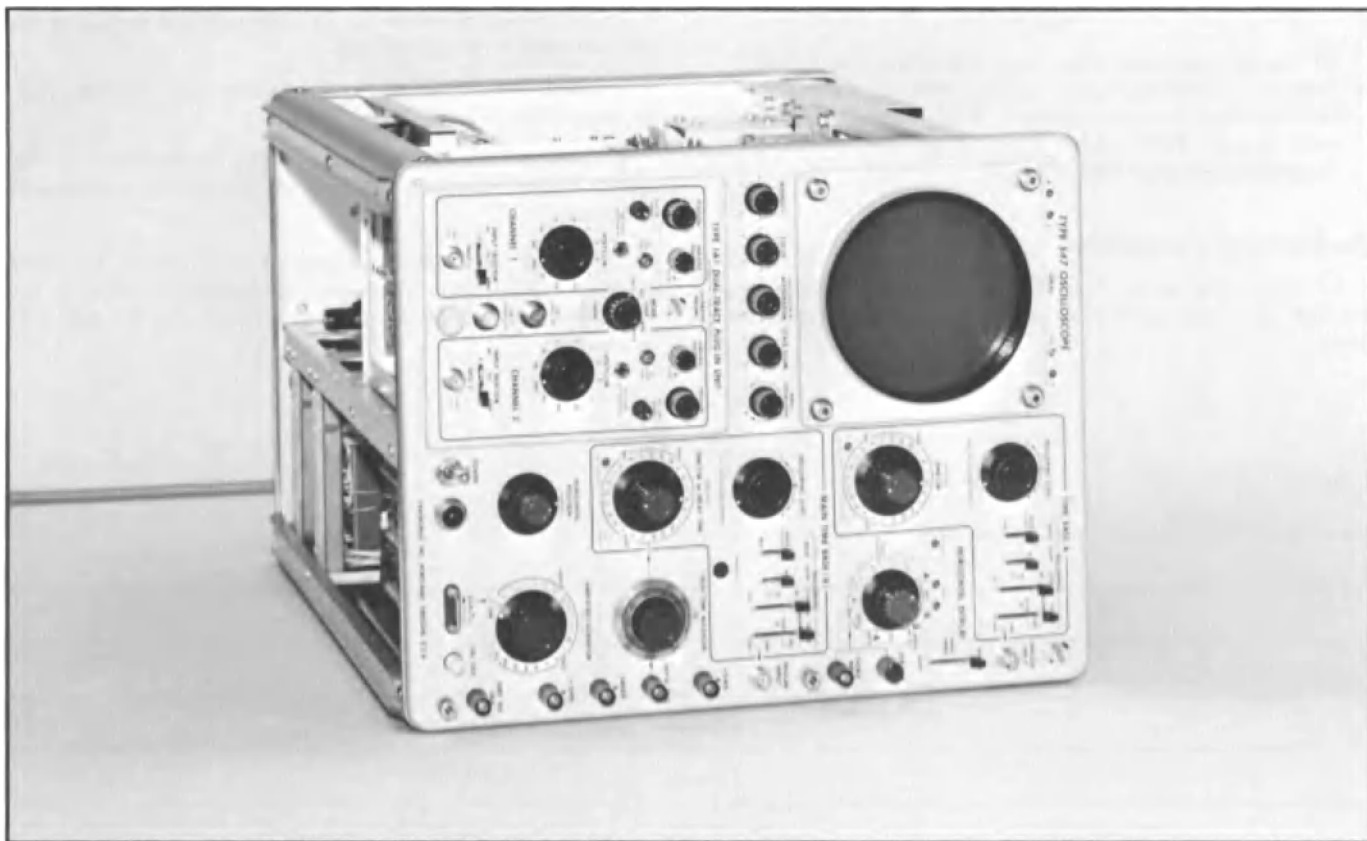

Fig. 7-2. Equipment setup for steps 1 through 4.
1. Adjust Channel 1 .005 V/CM VAR ATTEN ① BAL (R130)
a. Equipment setup is shown in Fig. 7-2.
2. Adjust Channel 1 .05 VOLTS DC BAL (R148) ①
- Equipment setup is shown in Fig. 7-2.
3. Adjust Channel 2 .005 V/CM VAR ATTEN (R230) ①
4. Adjust Channel 2 .05 VOLTS DC BAL (R248) ❶